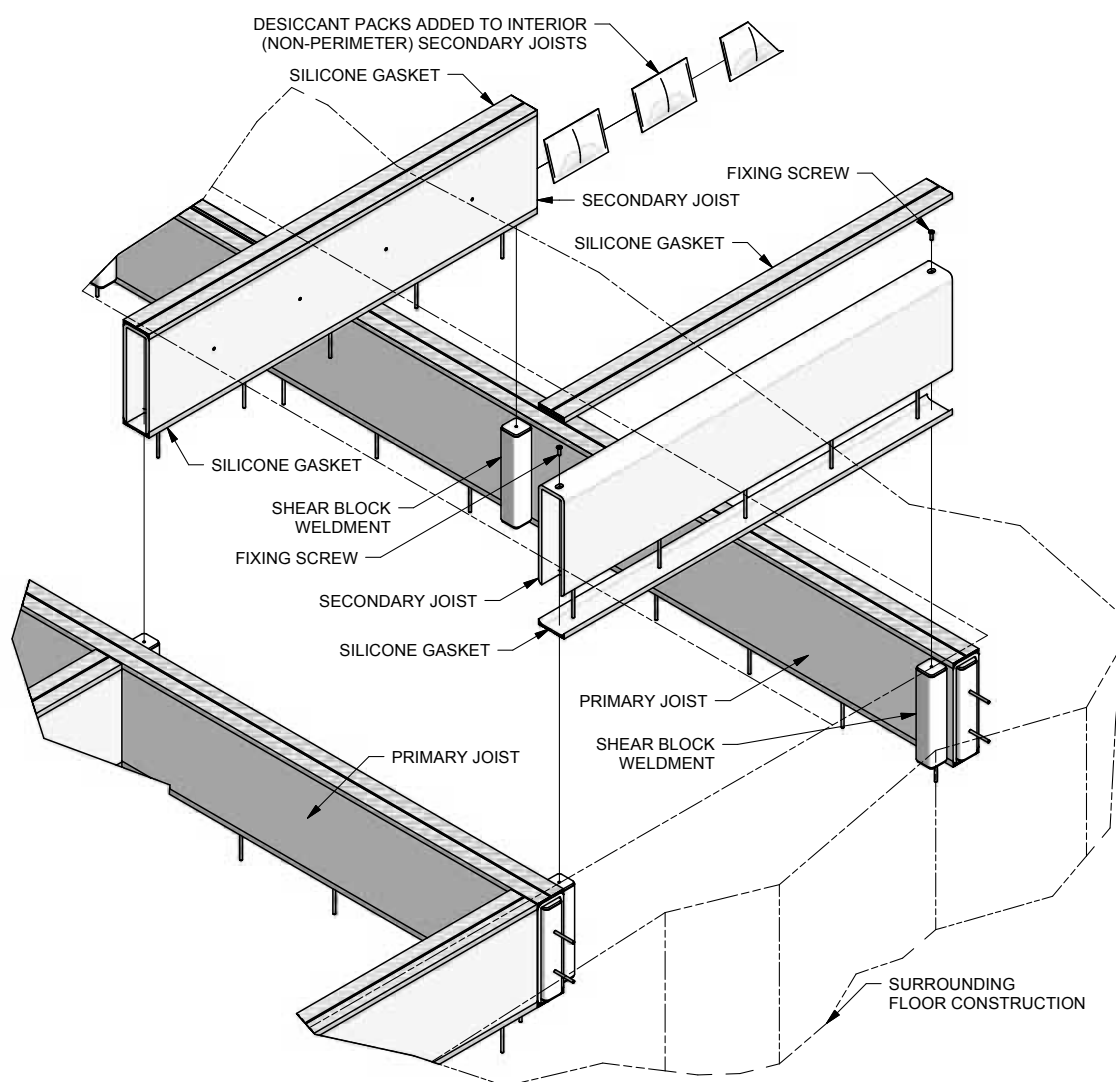

Figure 6: Secondary Joist Installation
1. Secondary joists connect in between the primary joists. Primary joists have shear blocks welded to them at all secondary joist locations. Secondary joists have a machined notch in the bottom to allow for clearance for the shear block weldments. Secondary joists with holes are interior, secondary joists without holes are placed at the perimeter. The silicone gasket on the bottom will have to be peeled back to uncover notch for clearance (See Figure 6).